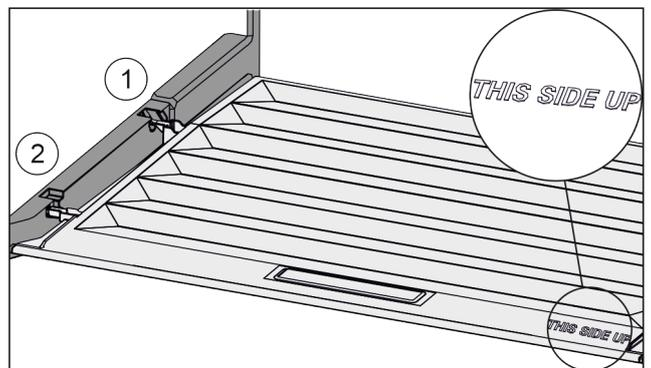

Fig. 59
- ▶ Insert the lip of the cover over the opening of the rear bracket Fig. 59 (1) and click into place Fig. 59 (2).